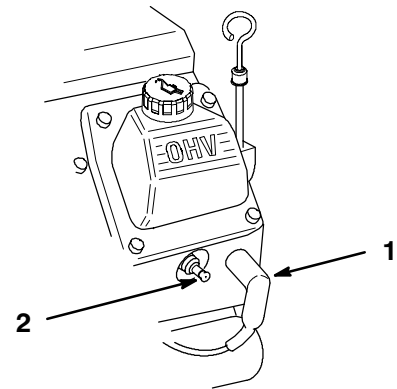

Figure 27
2. Pull the wires off of the spark plugs (Fig. 27).
3. Push the wires onto the spark plugs (Fig. 27).